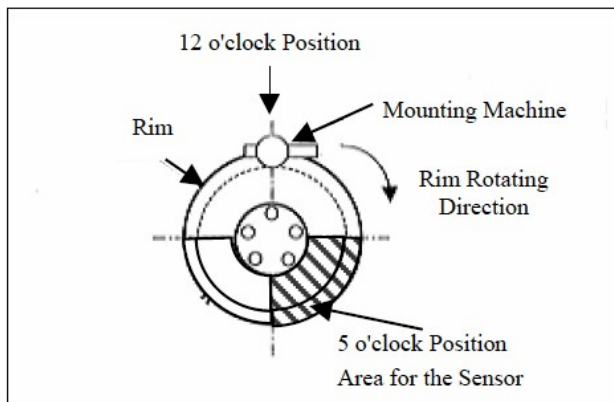

Figure 10
- (e) Re-position the wheel on the mounting machine with the sensor at ~ 5 o'clock position (Shaded area in Figure 10).